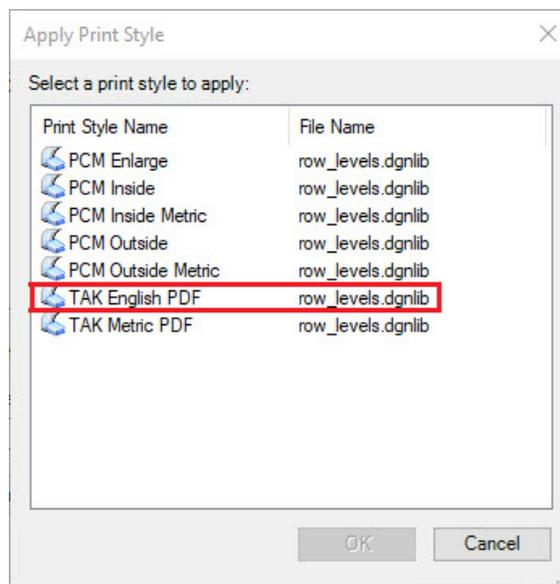

Figure 24 "Print Style Name"
Step 6. Double Click either TAK English or TAK Metric (Figure 24 below)